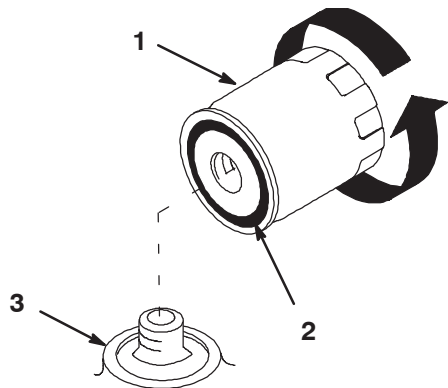

Figure 30
2. Remove the old filter and wipe the filter adapter gasket surface (Fig. 30).
3. Apply a thin coat of new oil to the rubber gasket on the replacement filter (Fig. 30).
- A. Turn the oil filter clockwise until the rubber gasket contacts the filter adapter (Fig. 30).
- B. Tighten the filter an additional 1/2 turn (Fig. 30).